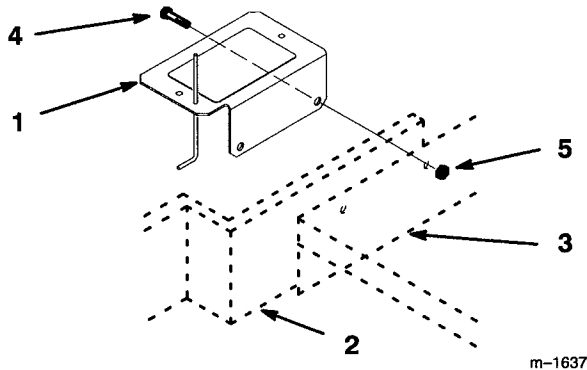

Figure 7
1. Mount battery holder and cutting unit carrier frame at the same time to upper holes on right side of traction unit. Use (2) 1/2 x 1-3/4" (32 mm). flange head capscrews and (2) 1/2" locknuts (Fig. 7).